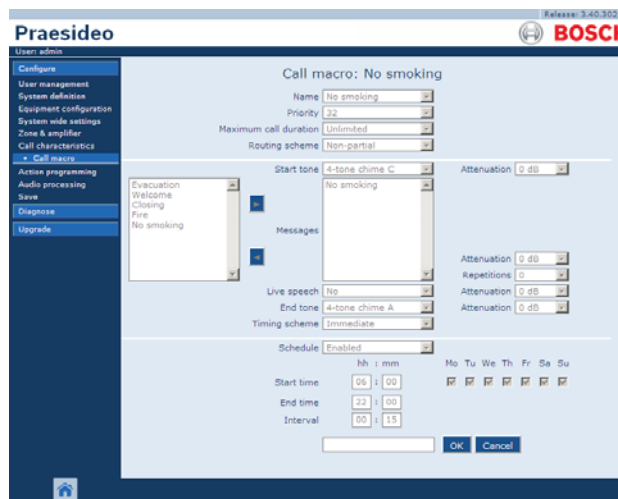

figure 46.3: Add call macro, step 2
- 2 Click the *Add* button to add a new call macro. A screen similar to the one in figure 46.3 appears in the main frame of the web interface.